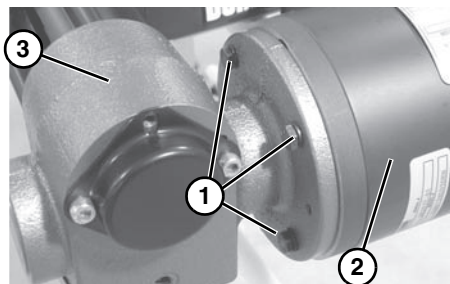
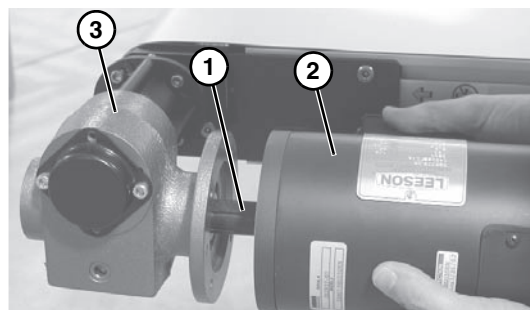

Figure 19
Figure 20
4. Remove four (4) screws (Figure 19, item 1). Detach motor (Figure 19, item 2) from gear reducer (Figure 19, item 3). Retain motor output shaft key (Figure 20, item 1).
5. With key (Figure 20, item 1) in keyway, slide motor (Figure 20, item 2) and gear reducer (Figure 20, item 3) together.